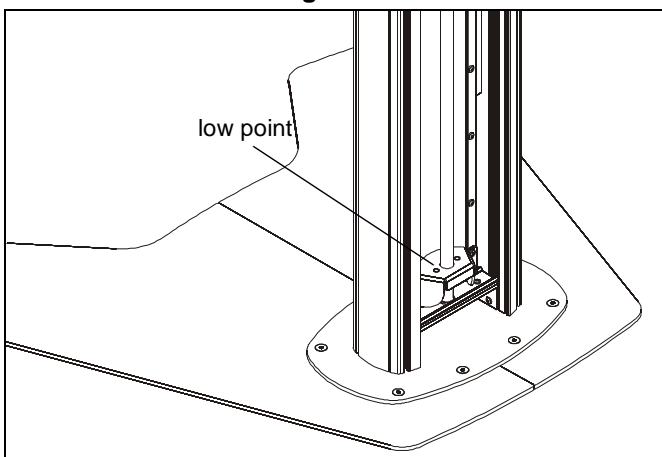

Figure 14
3. Turn height adjustment knob counterclockwise to lower display. (See Figure 14)